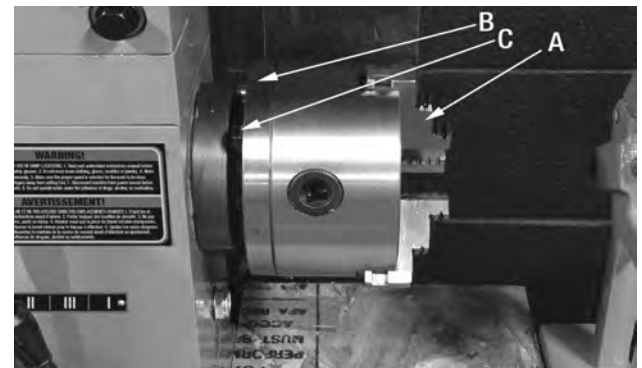

FIGURE 9
3. The Metal Lathe chuck (A) Fig.9 is secured to a back plate (B). The chuck is held in place with 3 hex. bolts (C). Loosen and remove two of the hex. bolts.